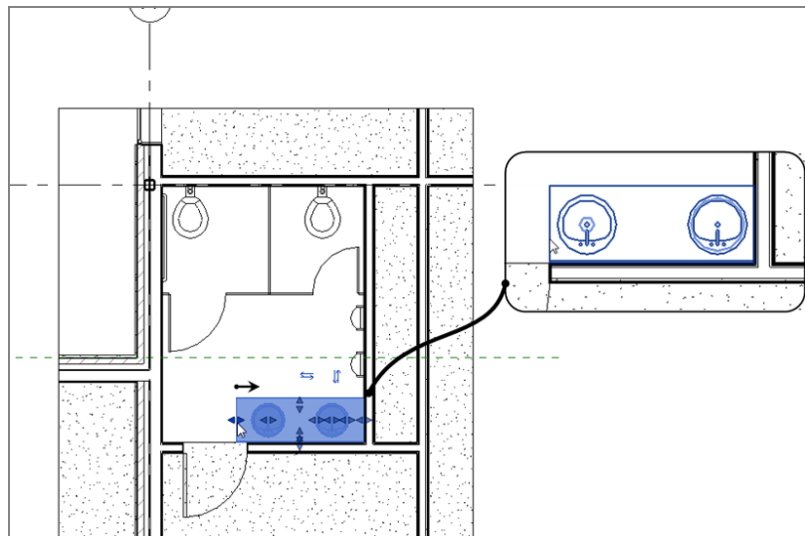

FIGURE 9.41: Placing the double sink
3. Place it in the corner, as shown in Figure 9.41.
5. Click the leftmost stretch grip, and slide the sink to be flush with the door opening (see Figure 9.41).